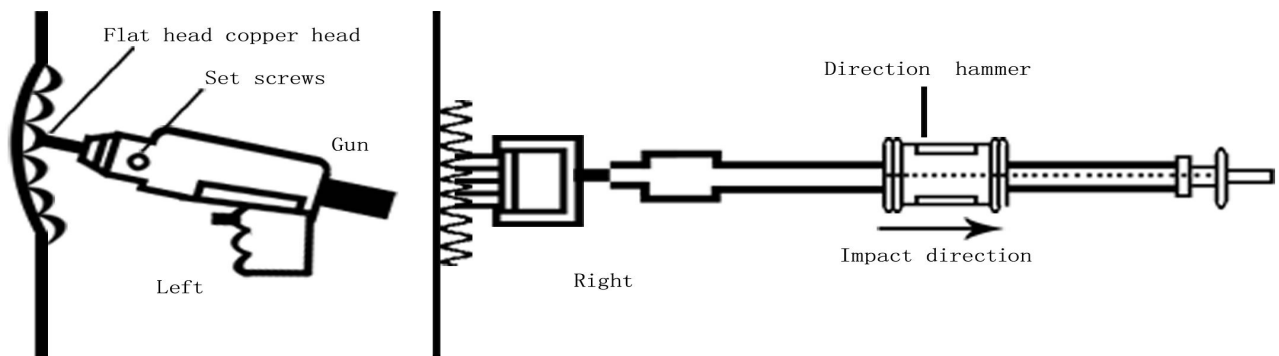

Figure 5
9.4 .Usage of snake rod:(see figure 5 left)
in order to improve repair efficiency, If work for a big area dent, please use the snake rod to repair. first head the flat cooper into the machine gun and screw it, the machine will in automatic state, gently press the flat cooper head on the snake rod, press the switch of welding gun(please pay attention adjust the current and time, or the snake rod will burned) and melting(see figure 5) completed each points of the snake many time, then use claw to draw the snake bar(replace the draw on the pull hammer with claw). strike outside with pull hammer(see figure 5 right)